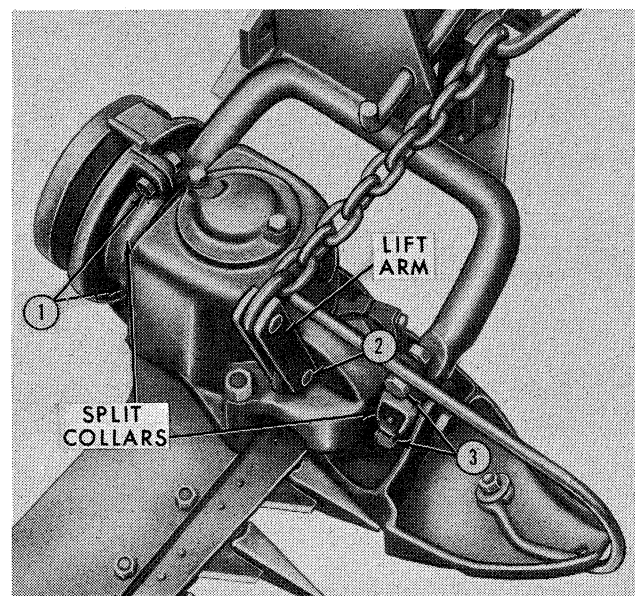

Figure 35
18. Securely tighten the two bolts (1), and the two bolts (3), Figure 35, in the split collars.
19. Raise the outer end of the cutter bar about 18" and securely support it in this position. Then, secure the lift arm, Figure 35, to the wobble drive housing with the clevis pin (2) and cotter pin. Remove the support from under the cutter bar.
22. Install the 8" flat idler, Figure 35, on its mounting bracket as follows:
26. Attach the upper and lower belt guides and bracket assembly, Figure 35, to its mounting bracket with the two 1/2" – 13 x 1-1/4" bolts (4), flat washers, lock washers, and nuts (all provided in the bag of hardware). Adjust both the upper and lower belt guides so they are 1/8" from the belt and parallel to it. For detailed information on this adjustment, refer to the “Belt Guides” section on page 12 of this manual.